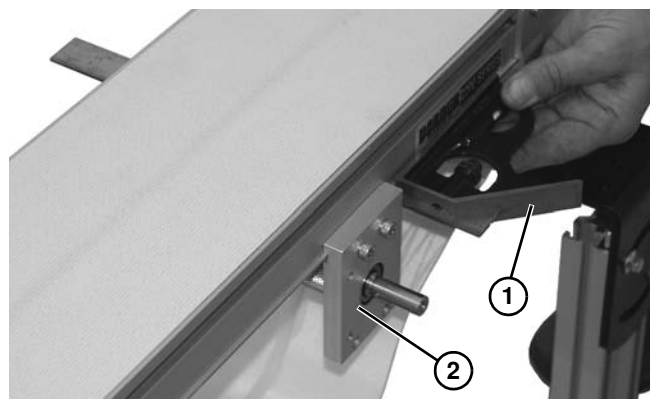

Figure 118
9. Be certain to use a square (**Figure 118, item 1**) across mounting blocks (**Figure 118, item 2**), so blocks are aligned to one another, before tightening hardware.